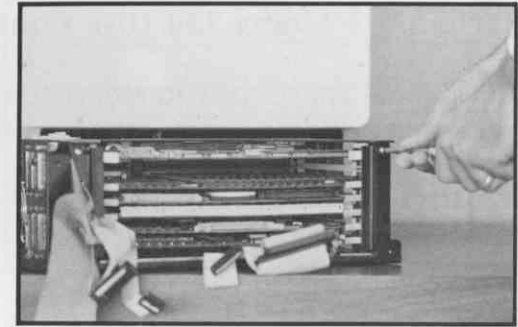

Figure 23 Restraining Rail Installation
3.9 If your system had restraining rails at the left and right edges of the card cage, install them as shown in Figure 23.